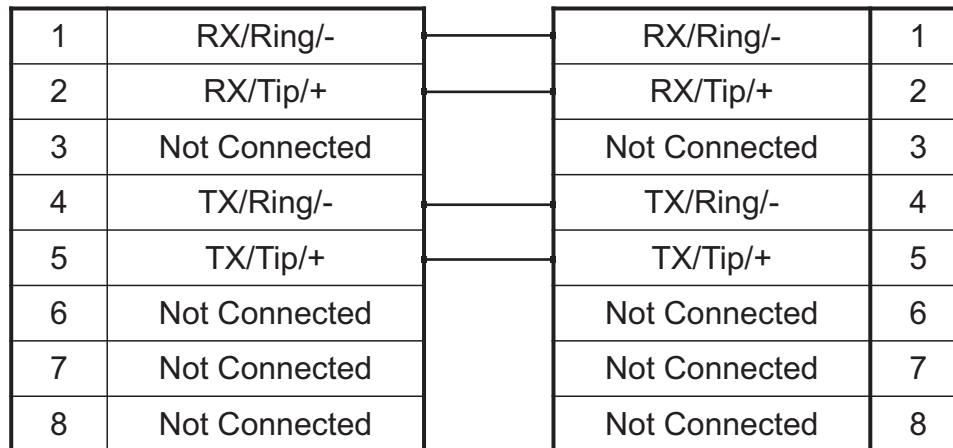

Figure 2.8 RJ48 Wiring Schematic
- Your TMP6400 features 16 modular 8-conductor RJ48 type jacks for connection to T1/E1/J1 lines. You will need one cable for each (T1/E1/J1) interface on the TMP6400. If you are making your own cables, refer to figure 2.8 on page 18 for crossover or straight cable wiring connections.
A TMP6400 with 16 RJ48 type ports enables the connection to T1/E1/J1 lines. The termination impedance is set at 100 ohms for T1 lines and 120 ohms for E1 lines. It is possible to connect an external balun in order to convert to 75 ohms. See figure 2.7 on page 17. If you are making your own cables, refer to figure 2.8 on page 18 for crossover or straight cable wiring connections.